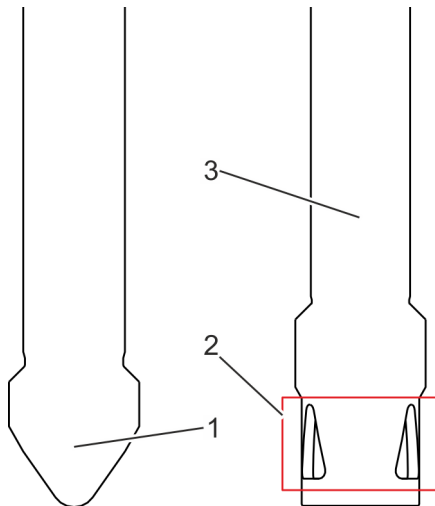

Fig. 8: Throttling valve cone and regulating cone
- a throttling valve cone (Fig. 8/1) or
- regulating cone (Fig. 8/3)
The throttling valve cone (Fig. 8/1) is used, if a valve is used in open/close operation.
The regulating cone (Fig. 8/3) is used, if a valve is used to regulate the mass flow.
Depending on the position of the shut-off element, pumping medium flows through the openings in the lower area of the cone (Fig. 8/2).